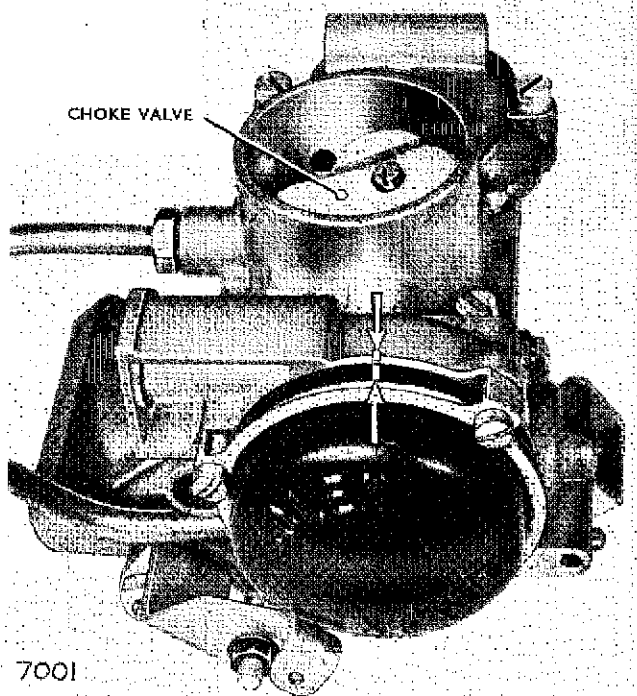

Fig. 14. Automatic choke cover correctly replaced and choke valve in cold starting position
Correct tensioning of the large bi-metal spring that controls the position of the choke valve is ensured by replacement of the cover, to which the inner coil of this spring is attached, so that the white dot or white line on its top edge is in the position shown in Fig. 14. This is most important.
The short white or scribed line on the automatic choke black cover must be in the position shown in Fig. 14.
Check that the white line, on the automatic choke hot chamber cover, is positioned to the raised edge on the carburettor body as shown in Fig. 14.
If an unlooped ended spring is used, as shown in the upper right-hand inset of Fig. 6, the cover should be replaced so that its white line is at the 9 o'clock position, then turned in a clockwise direction to the position shown in Fig. 14, and the cover fixing screws tightened.
When a looped end spring is used the cover must be replaced so that the looped end fits over the lever on the end of the strangler spindle (5), as shown in the lower right inset of Fig. 6. The cover should then be turned to the position shown in Fig. 14, and its fixing screws tightened.